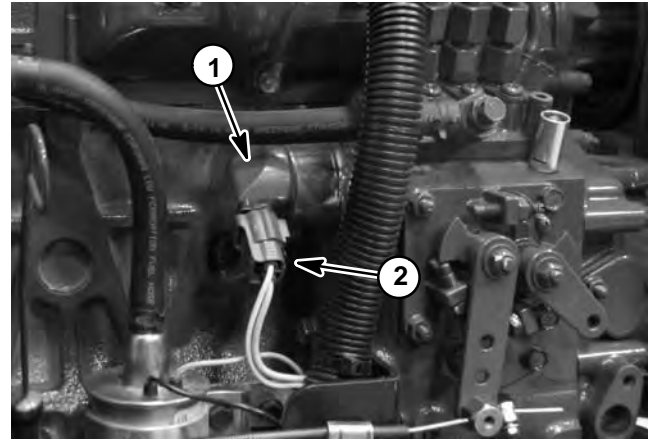

Figure 27
- A. Locate and unplug machine wire harness connector from the fuel stop solenoid (Fig. 27).